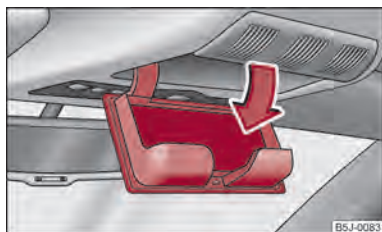

Fig. 66 Detail of the headliner: Stowage compartment for spectacles
- Press on the lid of the storage compartment, the storage compartment opens downwards ⇒ fig. 66.